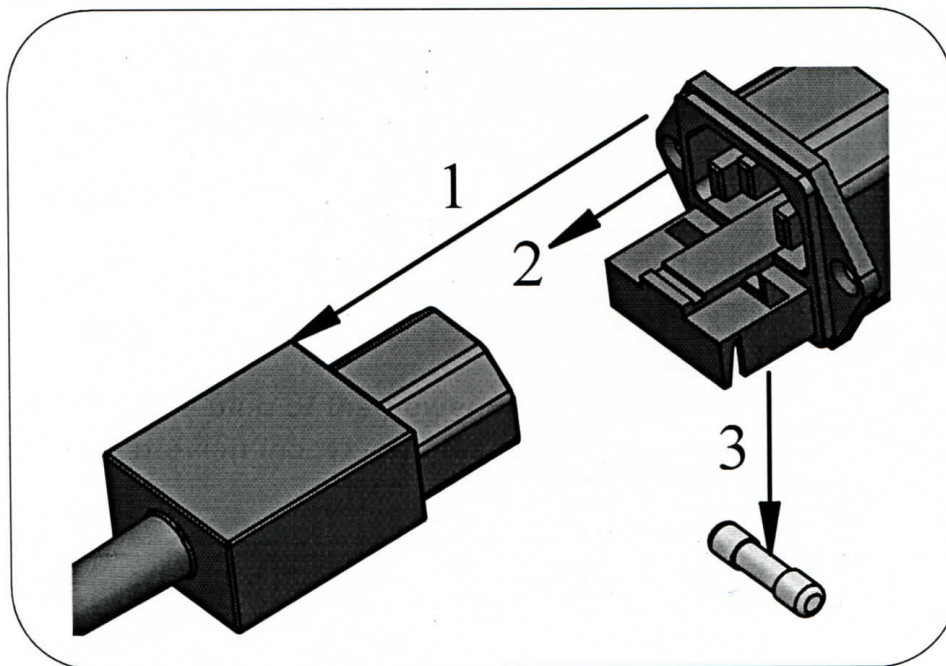

Figure 6 – Replacement of the fusing element
- 1) Disconnect the plug of the colposcope network cable 1 (fig. 6);